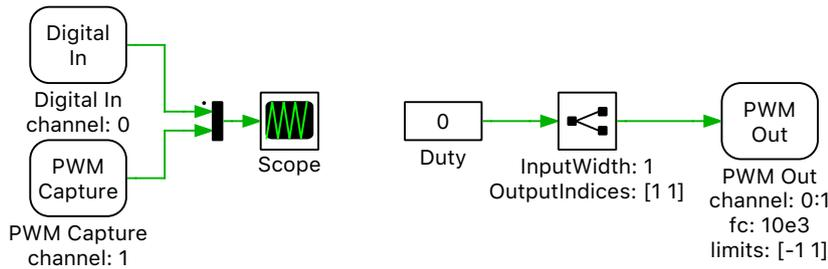

Figure 6: Comparing the Digital In and PWM Capture components
- 1 Create a new PLECS model and build the circuit shown in Figure 6. The circuit consists of a Digital In component assigned to channel 0 and a PWM Capture component assigned to channel 1. The output of the Digital In and PWM Capture blocks are connected to a Signal Multiplexer component and then a Scope. The PWM Out block uses digital outputs 0 and 1, with all other PWM Out parameters remaining at the default values of a 10 kHz carrier frequency and carrier limits of [-1,1]. A Constant representing the PWM duty is connected to the PWM Out block via a Signal Selector so that both PWM outputs have the same duty and settings. Add the duty cycle Constant to the parameter inlining list. Set the discretization step size in the **Coder Options** window to $10e-6$ s.